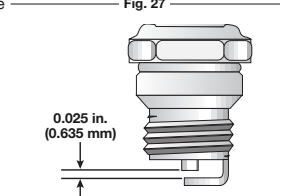

Fig. 28
- Replace a cracked, fouled or dirty spark plug. Set the air gap at 0.025 in. (0.635 mm) using a feeler gauge (Fig. 28).